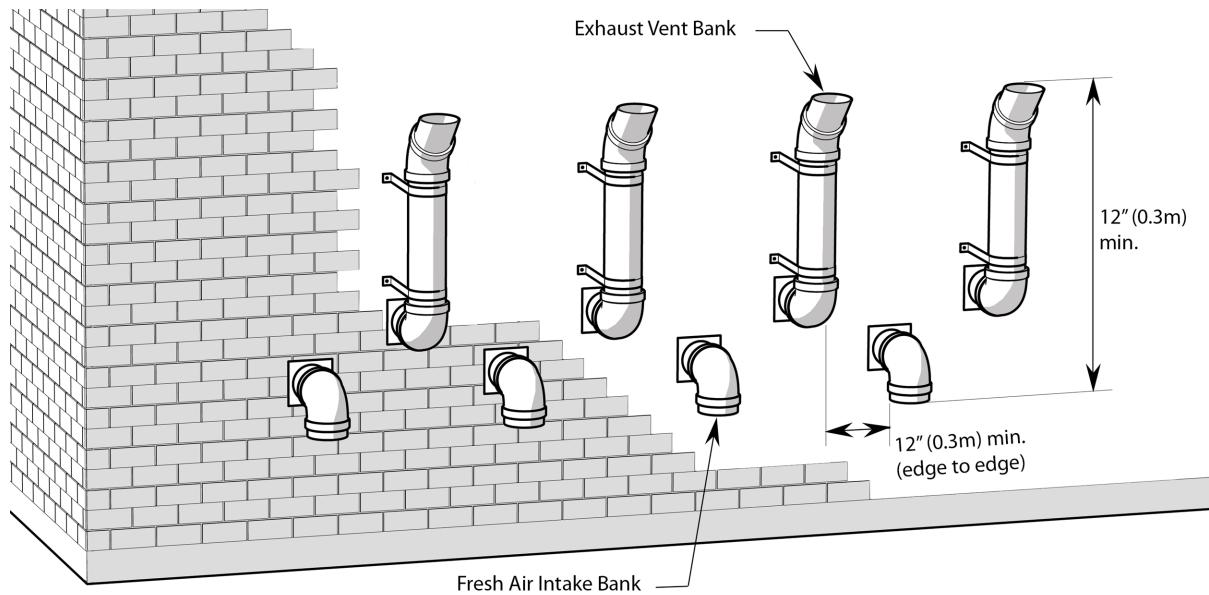
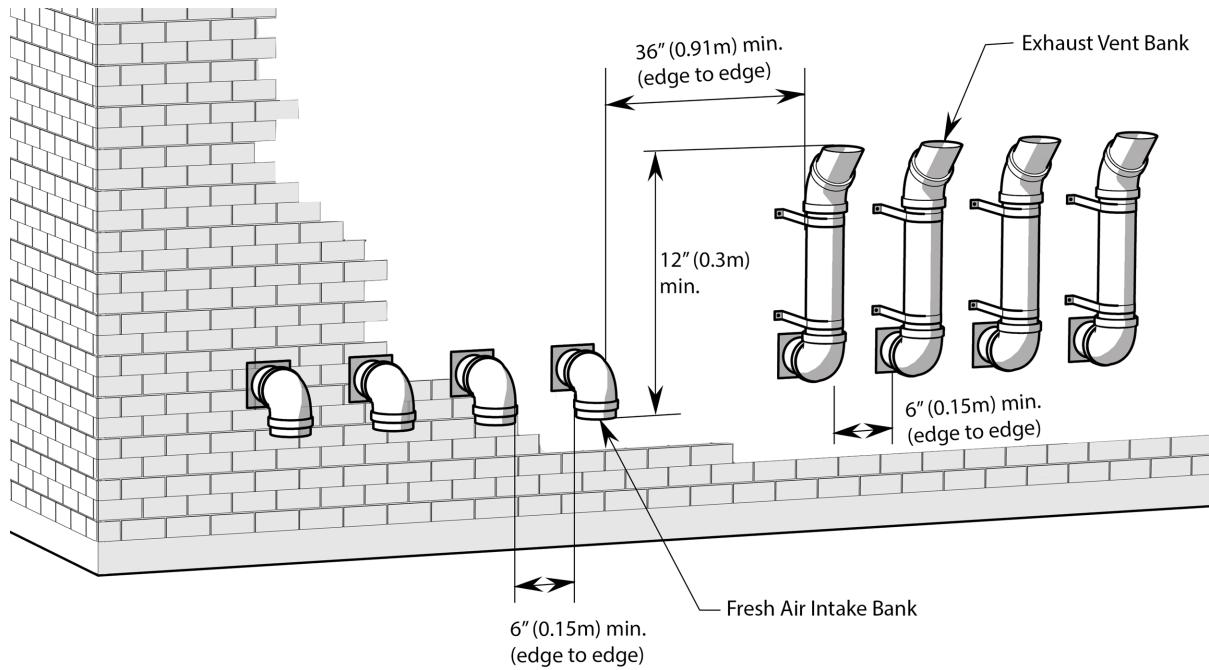

Figure 19 Sidewall vent termination configuration option 1
Figure 20 Sidewall vent termination configuration option 2
**Important!**: Maintain at least the minimum separation of exhaust vent termination from boiler intake air as illustrated in Figure 17 , Figure 18 , Figure 19 and Figure 20 . Failure to do so can result in a dangerous situation where exhaust gases are re-ingested with combustion air. Damage to the boiler can result from a failure to maintain these separations. Do not use proprietary InnoFlue or PolyPro PPs terminals without specific approval from IBC.
- » (Optionally) Raise the elevation of both terminations in "periscope style" after passing through the wall, then to gain the required clearance configure as shown in Figure 17 , Figure 18 , and Figure 19 .
- » Use a 45° elbow on the exhaust termination to launch the plume up and off the sidewall (for protection of wall). A short piece of venting cut at 45° gives a horizontal termination protected from wind loads (see Figure 17 , Figure 18 , and Figure 19 ).